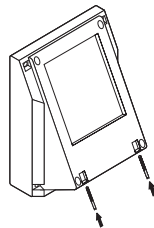

Fig. 4
- Drill holes (\varnothing 2 mm) for the screws in the housing (Fig. 4)